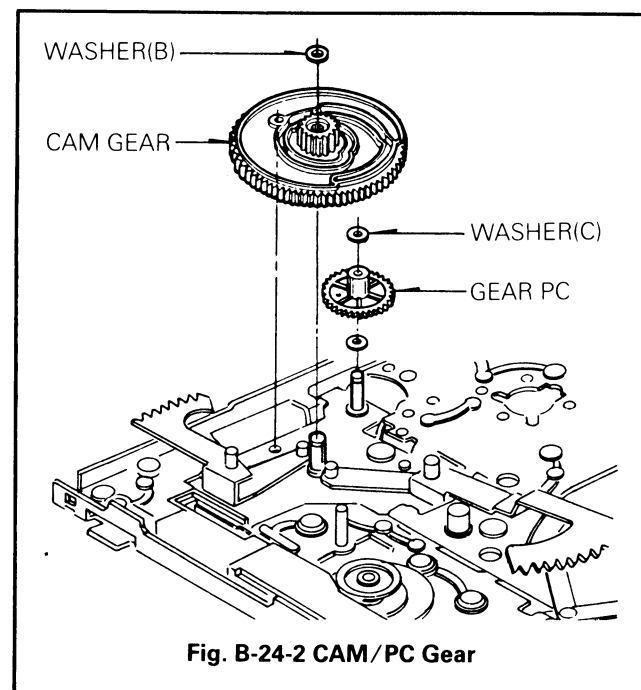

Fig. B-24-2 CAM/PC Gear
24. Cam Gear/Rack Gear T/Rack Gear FL(Fig. B-24-2)
- 2) Remove the washer(B), and then remove the Cam Gear (Fig. B-24-2).